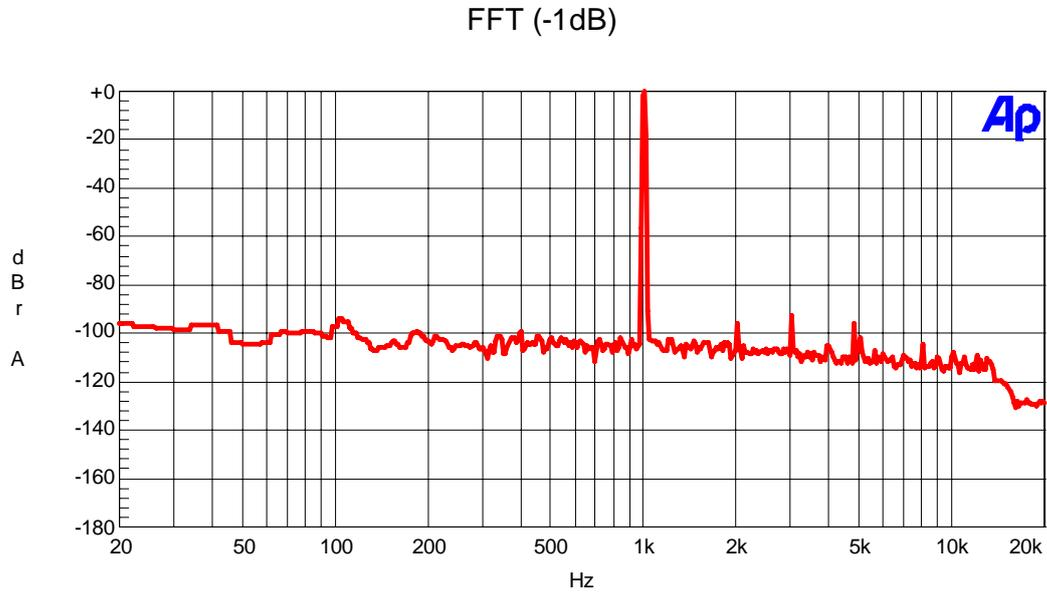

Figure. 20 Mono mode FFT Plot (-1dB)
- Figure. 20 : FFT Plot (-1dB)